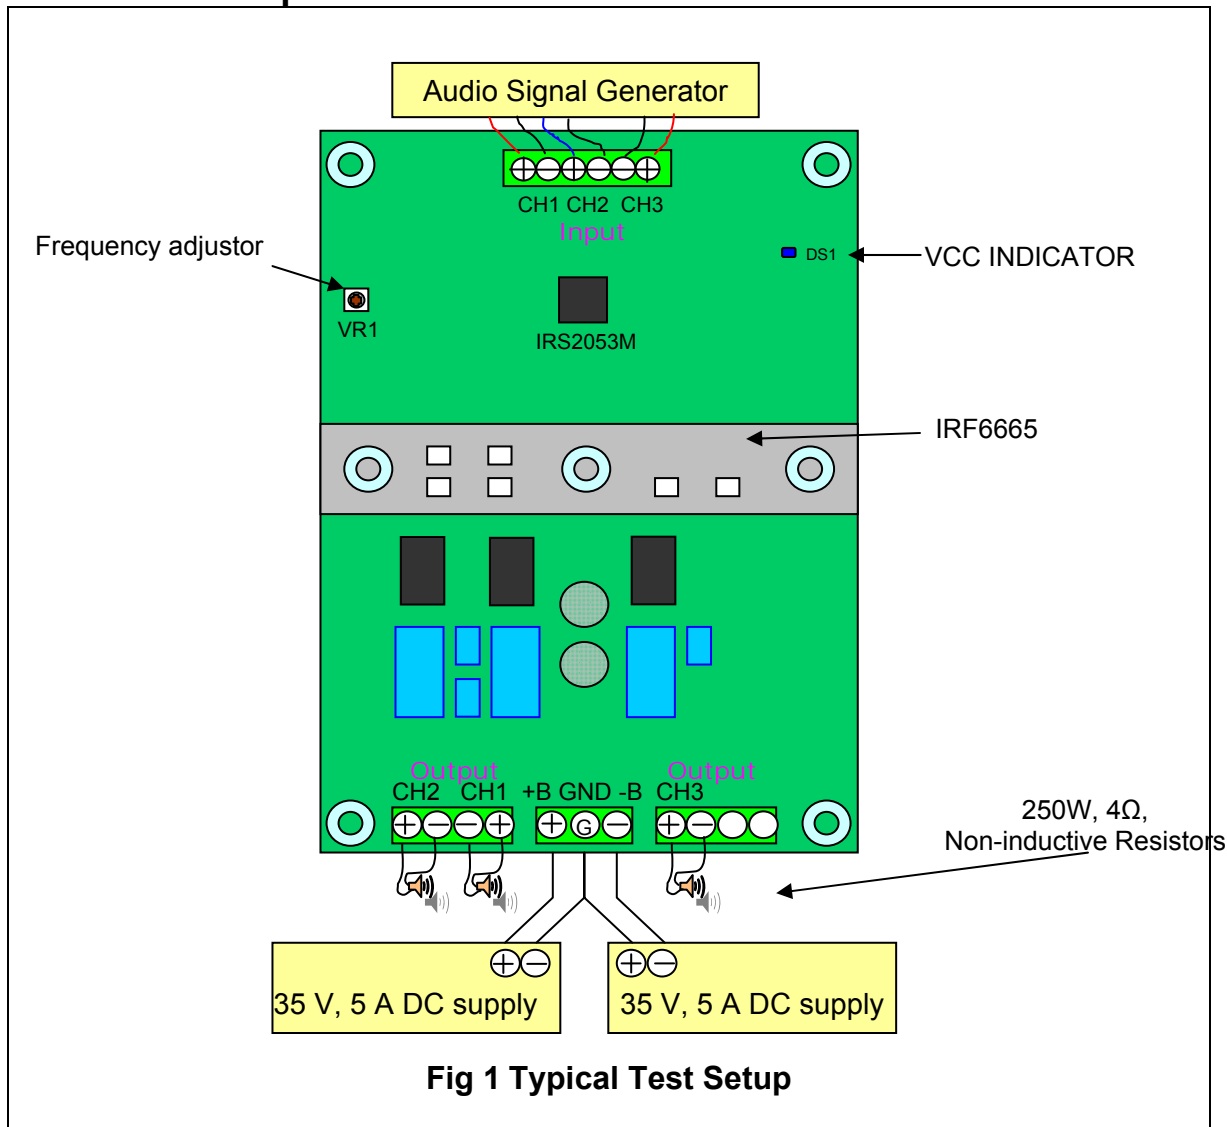

Fig 1 Typical Test Setup
1. Connect 4 Ω -200 W dummy loads to 3 output connectors (P2 and P3 as shown on Fig 1) and an Audio Precision analyzer (AP).
2. Connect the Audio Signal Generator to CN1 for CH1~CH3 respectively (AP).
5. Connect the dual power supply to P1. as shown on Fig 1